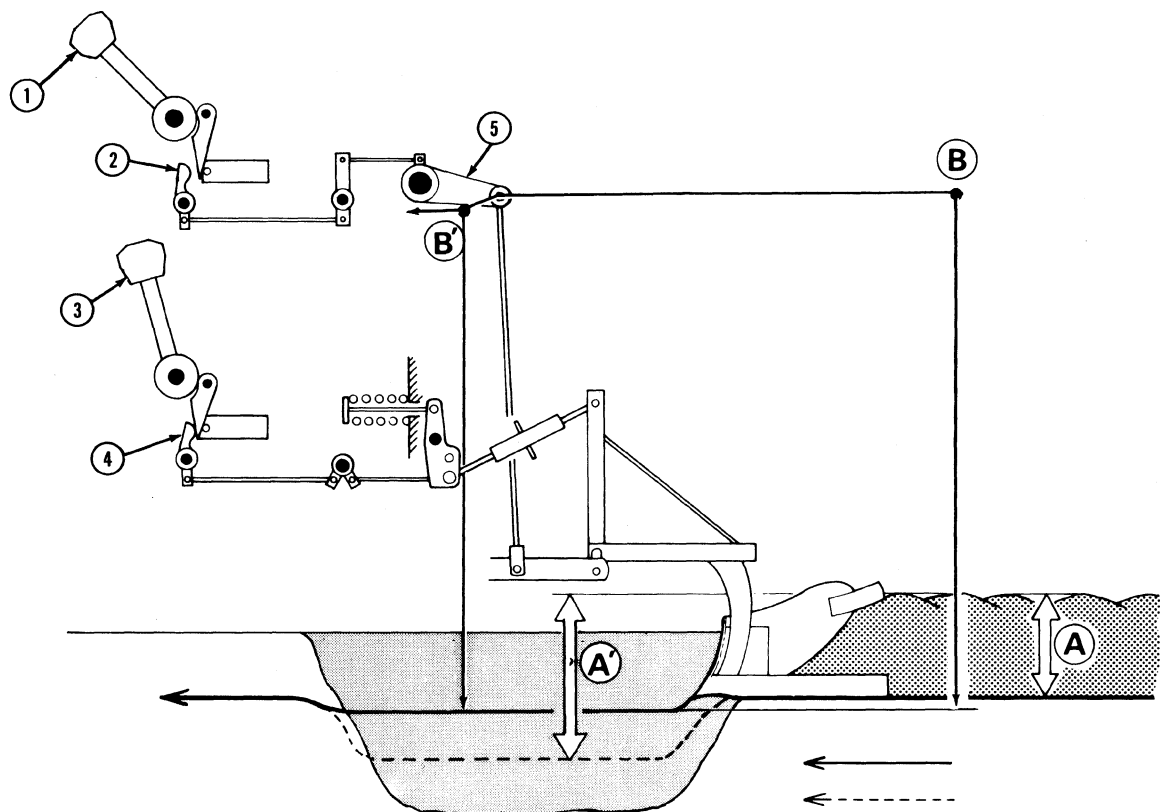

Figure 27
4. Link Operation Using Both Position and Draft Control (Figure 27).
As illustrated in Figure 27, the resistance of the implement (sensitivity of implement to raising and lowering) is adjusted with the draft control lever (3).